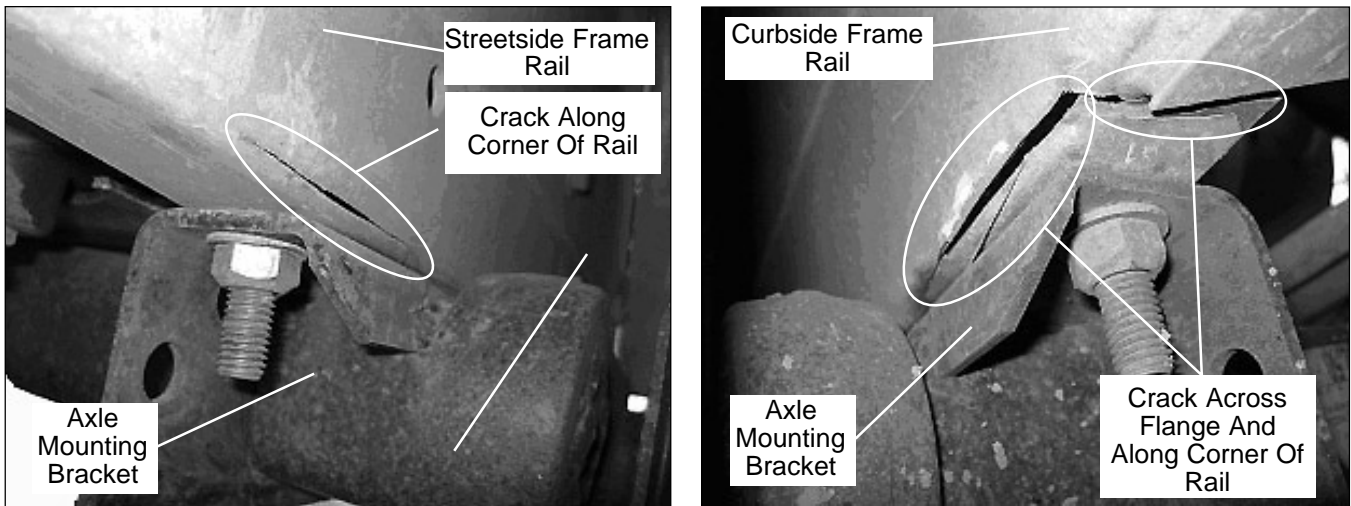

Figure 2 — Cracks Near The Axle Mounting
2. Look at each side of the frame in the area just in front of the axle mounting. Look for any cracks or deformities in this area of the frame close to the axle mounting brackets (refer to Figure 2).